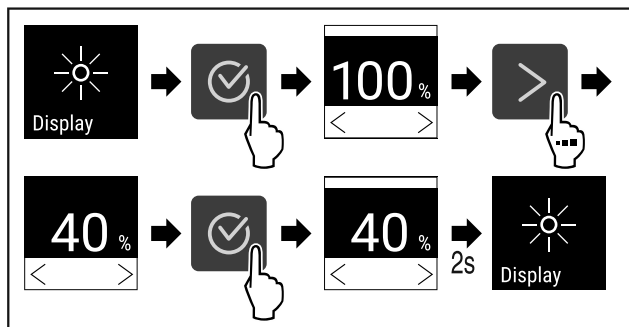

Fig. 101
- ▶ Complete the steps (see Fig. 101) .